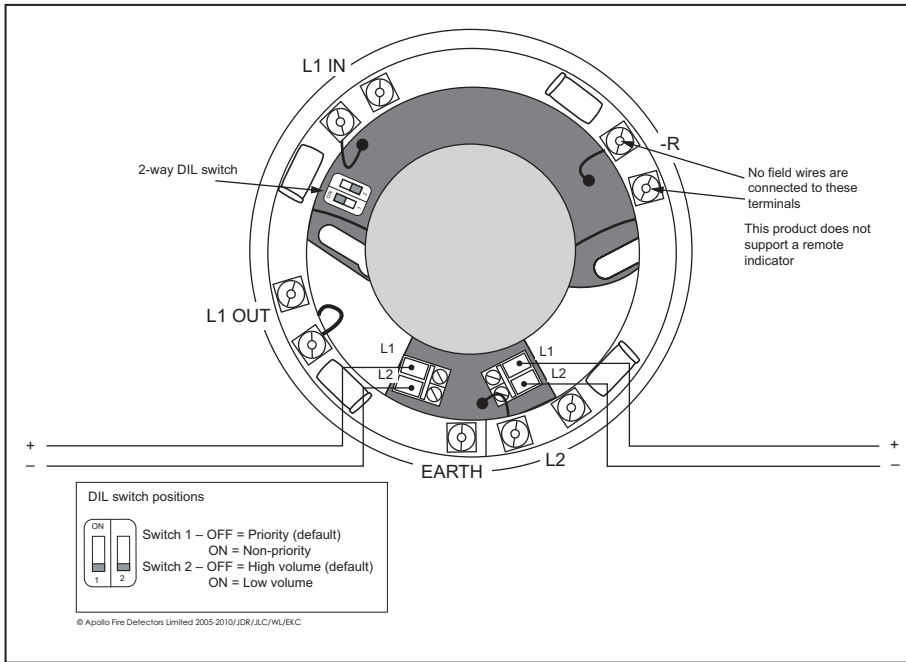

Fig 1 Sounder/Beacon Base
3. The priority/non-priority feature and volume are set by means of the DIL switch, see Fig 1.